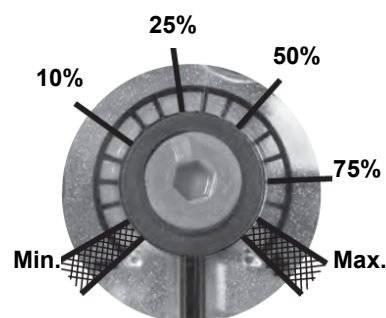

Fig. 5
- 2 Remove screws 1 ÷ 4 using the Allen key n. 3 and remove filter cover 5 in Fig. 5.